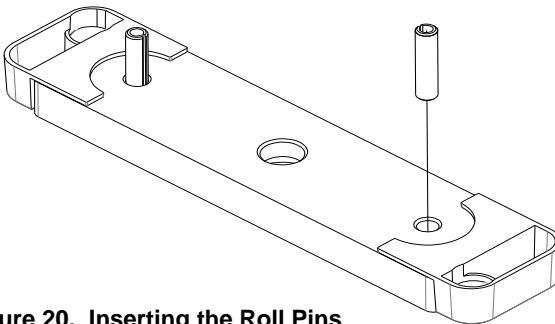

Figure 20. Inserting the Roll Pins
- a. REMOVE the two (2) roll pins from the hardware packet.
- c. Gently TAP into place using a hammer (see Figure 20, Inserting the Roll Pins”).